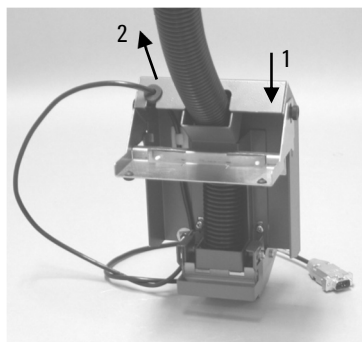

Figure 21. The exhaust hose fits all the way into the accessory until it is level with the white block at the bottom. Note the directional arrows.
- 8 If necessary, reconnect the exhaust hose to the accessory. The exhaust hose should be pushed down into the accessory until it is level with the white block at the bottom of the accessory (see Figure 21 on Page 52).
Refer to Figure 21. To remove the hose, pull it down from the mounting (1) and then pull it out of the accessory (2). You may also want to cut the hose to a length suitable to the installation.
When the hose is reinstalled it should sit approximately level with the base of the white block on the accessory. Refer to Figure 21.